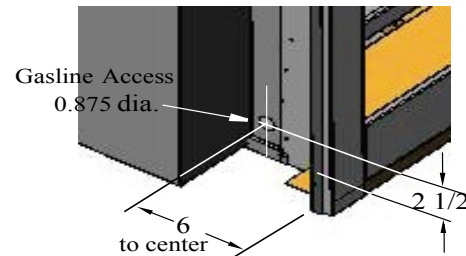

Figure 14. Gas line access.
- See **Figure 14** for location of gas line access.